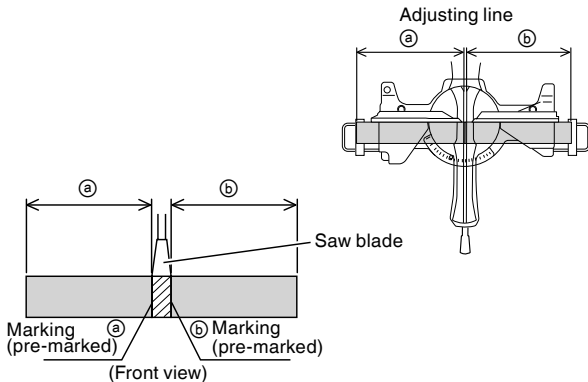

Fig. 25
- (1) As shown in Fig. 25 the width of the saw blade is the width of the cut. Therefore, slide the workpiece to the right (viewed from the operator's position) when length ② is desired, or to the left when length ① is desired. If a laser marker is used, align the laser line with the left side of the saw blade, and then align the ink line with the laser line.
- (2) Once the saw blade reaches maximum speed, push the handle down carefully until the saw blade approaches the workpiece.